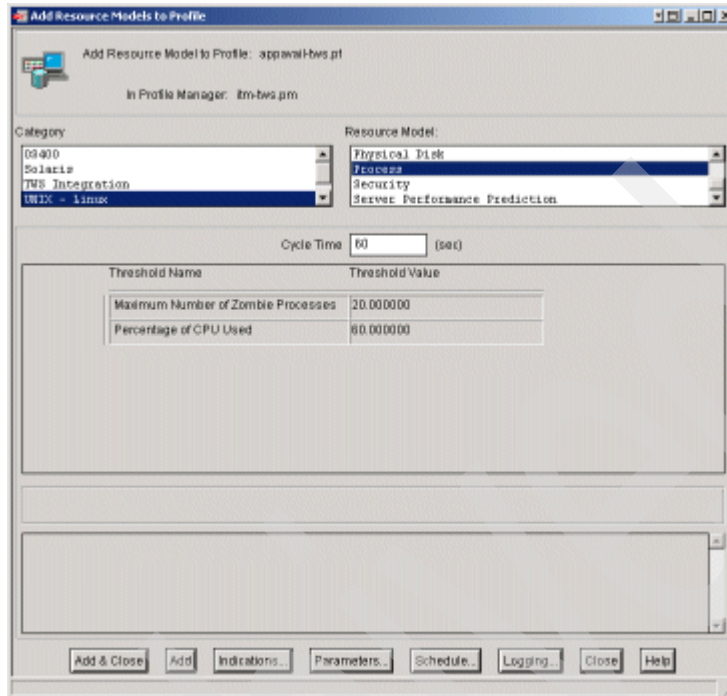

Figure 9-82 Selecting Process resource model
3. Select **UNIX – Linux** in the Category list on the left-hand side of the window, and ensure that **Process** is selected in the Resource Model list on the right-hand side of the window as shown in Figure 9-82 on page 495.